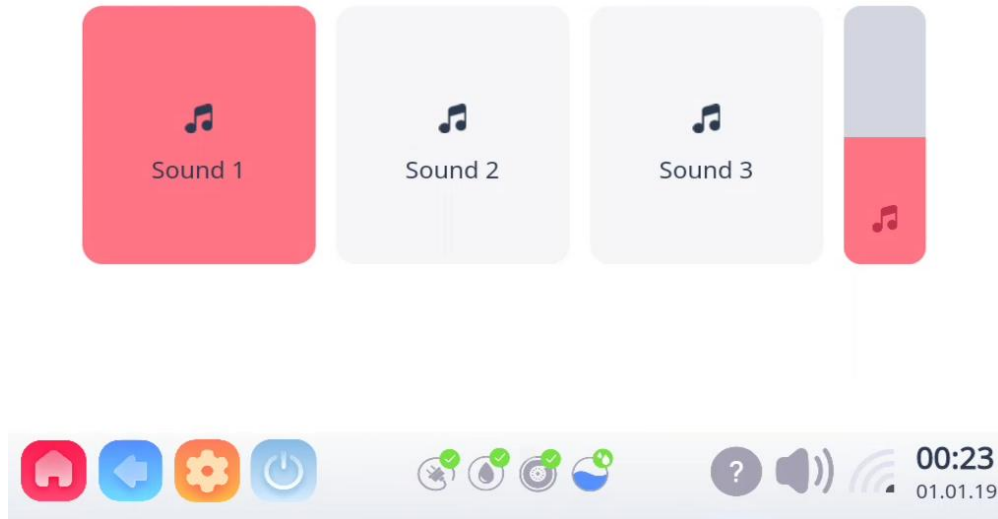

Figure 5.4-11
- Click “Menu sound” to adjust the volume of laser operation and choose different sounds ,push down to reduce sound, push up to reverse(see Figure 5.4-11).